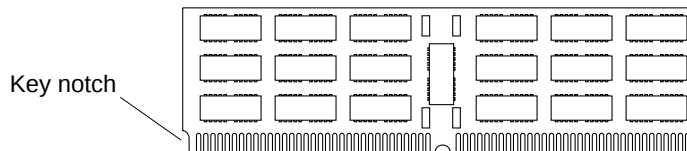

FIGURE 11-27 DSIMM, Back View
4. **If installing a DSIMM, position the DSIMM with the key notch near the ejection lever (FIGURE 11-27).**